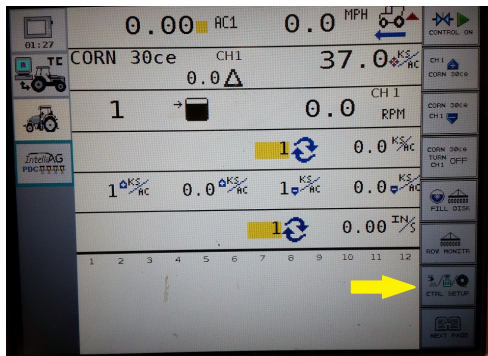

Figure 43
Step 2. Select **Control Setup** from icons on right hand side of VT. (Figure 43)